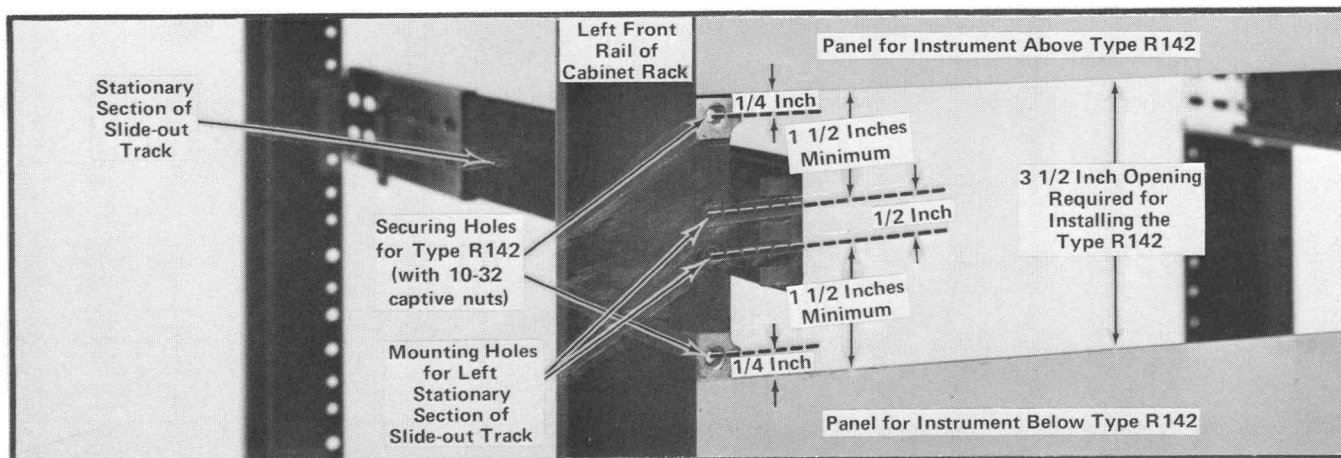

Fig. 6-5. Vertical mounting position of the left stationary section and location of the securing holes. These same dimensions apply to the right front rail.
**Mounting Procedure**—Use the following procedure to mount both sets. See Figs. 6-5 and 6-6 for installation details.
1. To mount the instrument directly above or below another instrument in the cabinet rack, select the appropriate holes in the front rack rails for the stationary sections using Fig. 6-5 as a guide.